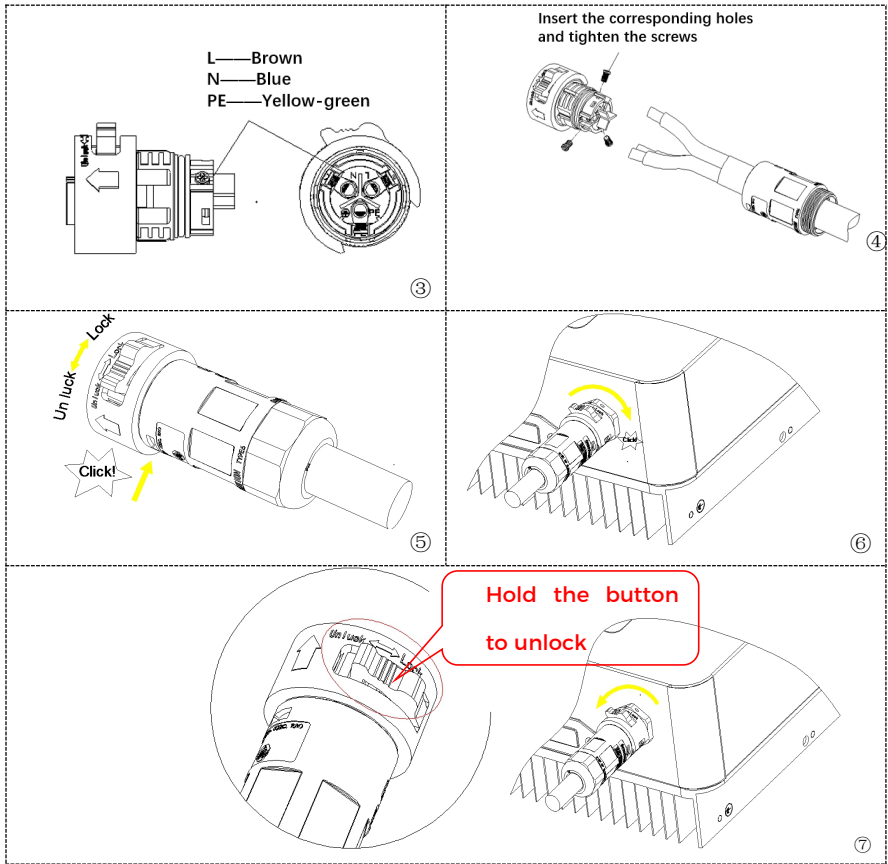

Fig. 4-4 Load connection
Step 1 Select appropriate cables according to Table4-3, Remove the insulation layer of the load output cable using a wire stripper according to the Fig. 4-4①shown below: A:15~25mmB:6~8mm.
Step 2 Disassemble the load connector according to the Fig. 4-4② shown below: insert the load output cable (with its insulation layer stripped according to step 1) through the waterproof locking cable gland.
shown in the Fig. 4-4③:
Step 4 Insert the load connector and hear "click", then tighten the waterproof nut at the instantaneous value, as shown in the Fig. 4-4④ below, to ensure that the cable is firmly connected.
Step 5 Connect the connected load connector to the load connector of the inverter. Turn the ac connector knob to lock until you hear a "click" and the clasp is in place, as shown in the Fig. 4-4⑤⑥.
Hold the button to unlock and rotate the knob counterclockwise to the unlock position, then pull out the load connector, the following Fig. 4-4⑦, Make sure the grid is disconnected before removing the load connector .